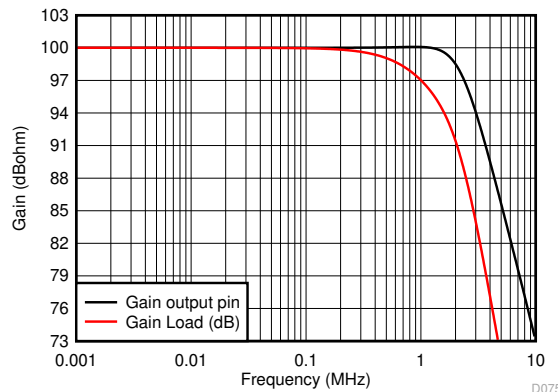

図 9-8. Small-Signal Response for 100-k Ω Transimpedance Gain
- Assume a nominal source capacitance value of 100 pF. This normally comes from the capacitance versus reverse bias plot for the photodiode. No reverse bias is illustrated in Figure 9-8, but the current source is typically a back biased diode with a negative supply on the anode and the cathode connected to the op amp inverting input. In this polarity, the signal current sinks into the diode and raises the op amp output voltage above ground.
Implementing this design and simulating the performance using the TINA model for the response to the output pin and to the final capacitive load shows the expected results of 図 9-8. Here, the exact 2.2-MHz flat Butterworth response to the output pin is shown with the final single pole rolloff at 1 MHz at the final 2.2-nF capacitor.